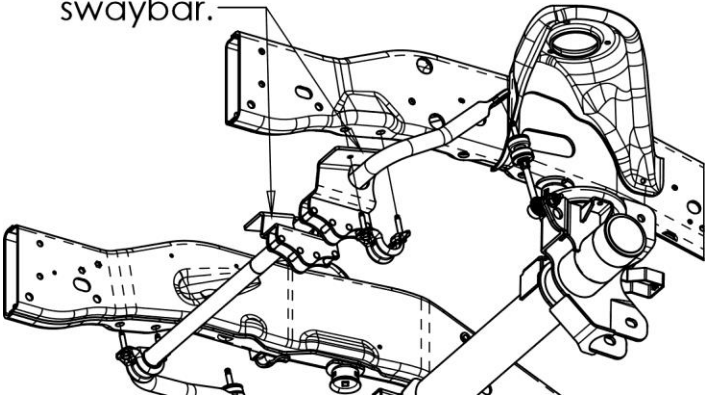
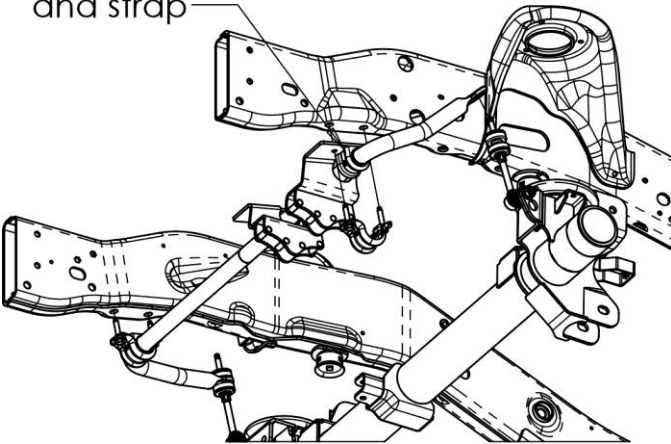

Figure 17: Slide both Brackets onto Swaybar
Figure 18: Re-Install the swaybar bushing
3. Install both volume brackets as shown in Figure 17 and Figure 18.